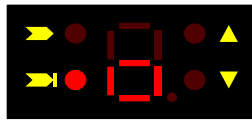

Figure 39
- When the requirements for the activation are met, a signalling is provided onto the LED display in order to inform users that an override is possible and required (see Figure 39).